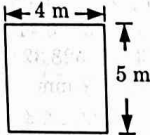

Fig. 3.15.1.
**Que 3.15.** Design a continuous two-way slab system shown in Fig. 3.15.1. It is subjected to an imposed load of  $3 \text{ kN/m}^2$  and surface finish of  $1 \text{ kN/m}^2$ . Consider M 25 concrete, grade Fe 415 steel, moderate environment. Assume that the supporting beams are  $230 \text{ mm} \times 500 \text{ mm}$ .
Figure is not given in the question. So, assume dimension of two way slab is  $4 \text{ m} \times 5 \text{ m}$  as shown in Fig. 3.15.1.
**2.** From Fig. 3.15.1,  $l_y/l_x = 5/4 = 1.25 < 2$